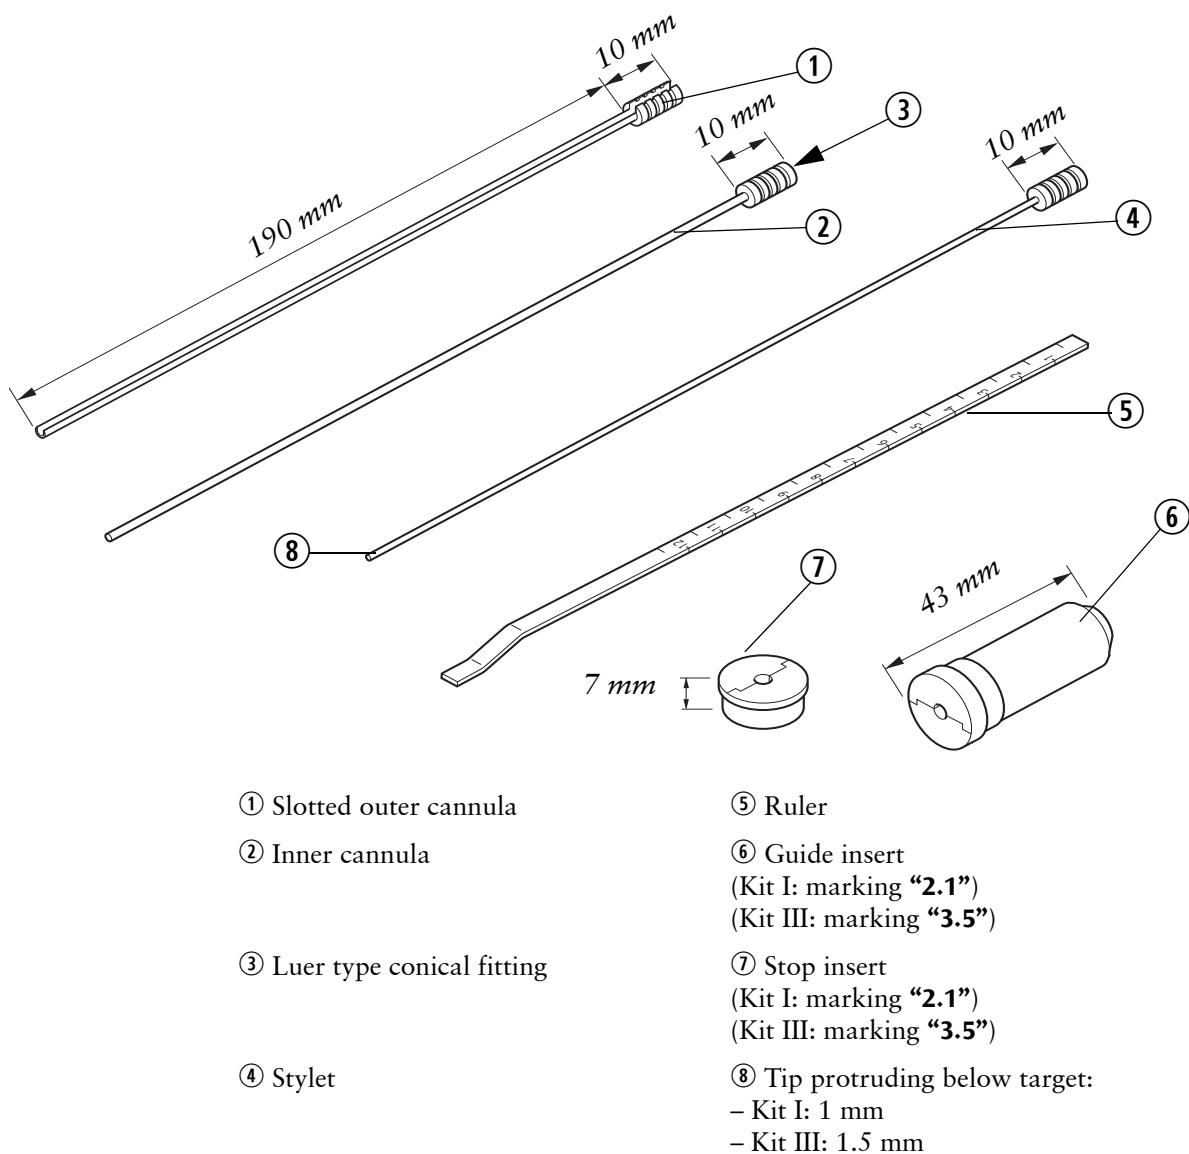

Figure 5.9 Main parts of a Backlund Catheter Insertion Needle Kit
Refer to Figure 5.9.
The **slotted outer cannula** ① has an open slot along its length which allows it to be withdrawn after insertion of the catheter. The **inner cannula** ② fits into the slotted outer cannula and allows fluid to be drained from the target area when appropriate. With the cannulas ① and ② combined, the working length is 190 mm, as indicated in Figure 5.9. The knob of the inner cannula is equipped with a **Luer type conical fitting** ③ to facilitate aspiration. The **stylet** ④ is used to seal the inner cannula during insertion into the patient's brain.
The working length of the instrument is 190 mm. The tip of the instrument protrudes below the target, see Figure 5.9 and refer to Section 5.2;